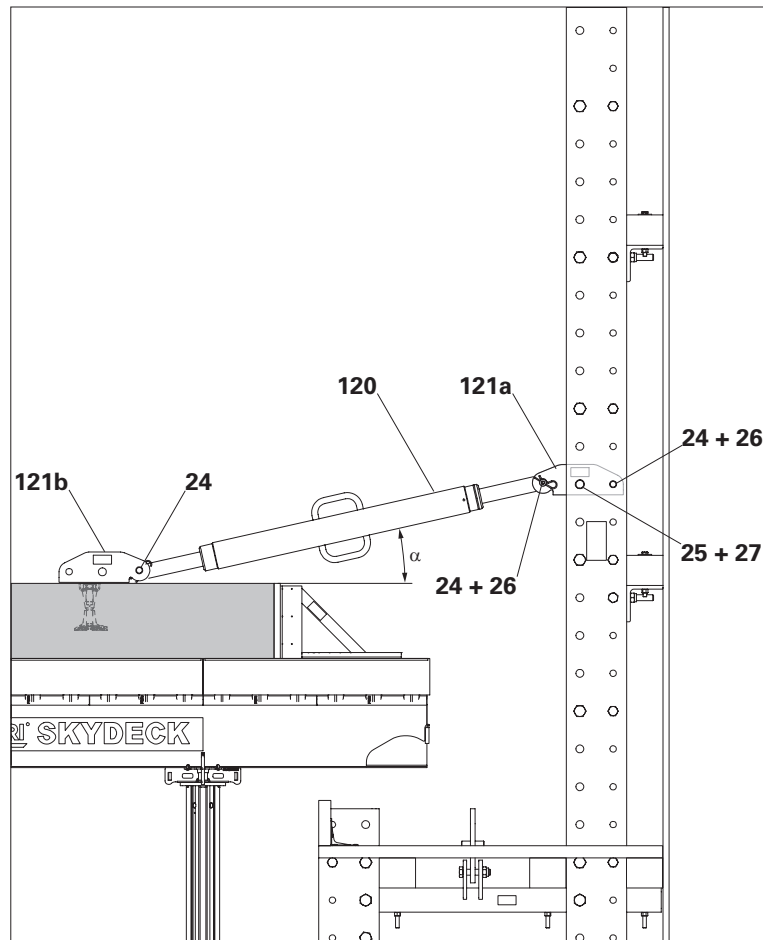

Fig. D1.10
3. Attach a second spindle shoe (**121b**) to the heavy-duty spindle (**120**) using fitting pin \varnothing 21 and cotter pin (**26**). (Fig. D1.10)